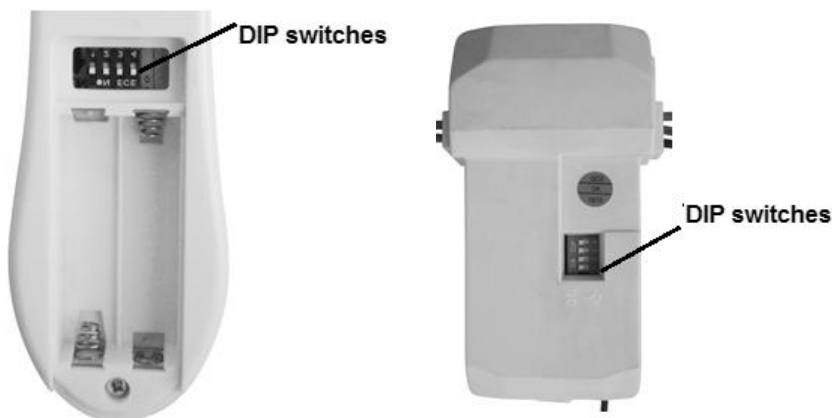

Fig. 11 Remote battery compartment
- 2 x AAA 1.5V (size) batteries are required to operate the remote control. Remove the battery cover from the back of the remote and insert 2 x AAA batteries. Ensure the polarities are correct as shown in the battery compartment. (Fig.11) (Batteries not included.)